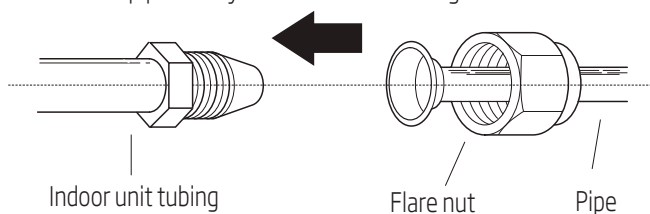

Fig. 7.7
1. Align the center of the two pipes that you will connect. See Fig. 7.7.